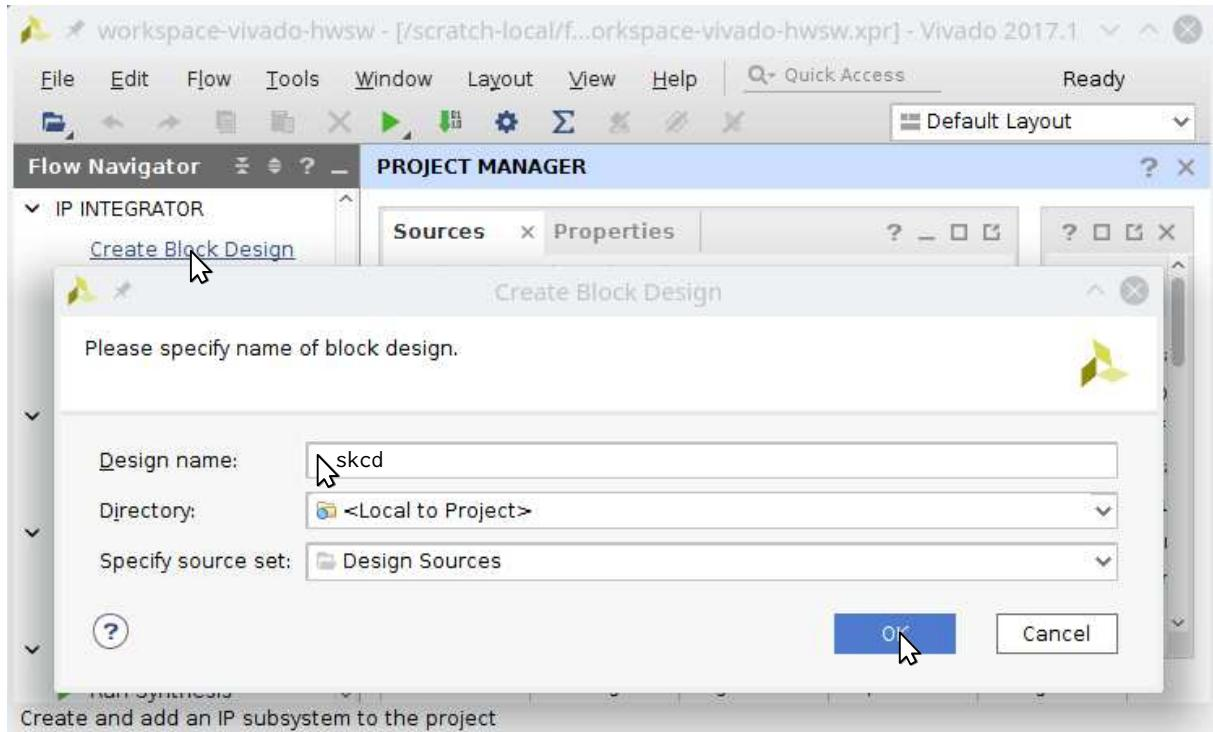

Figure 37: Create the skcd block design
- m) Then, create the skcd block design (see Figure 37).